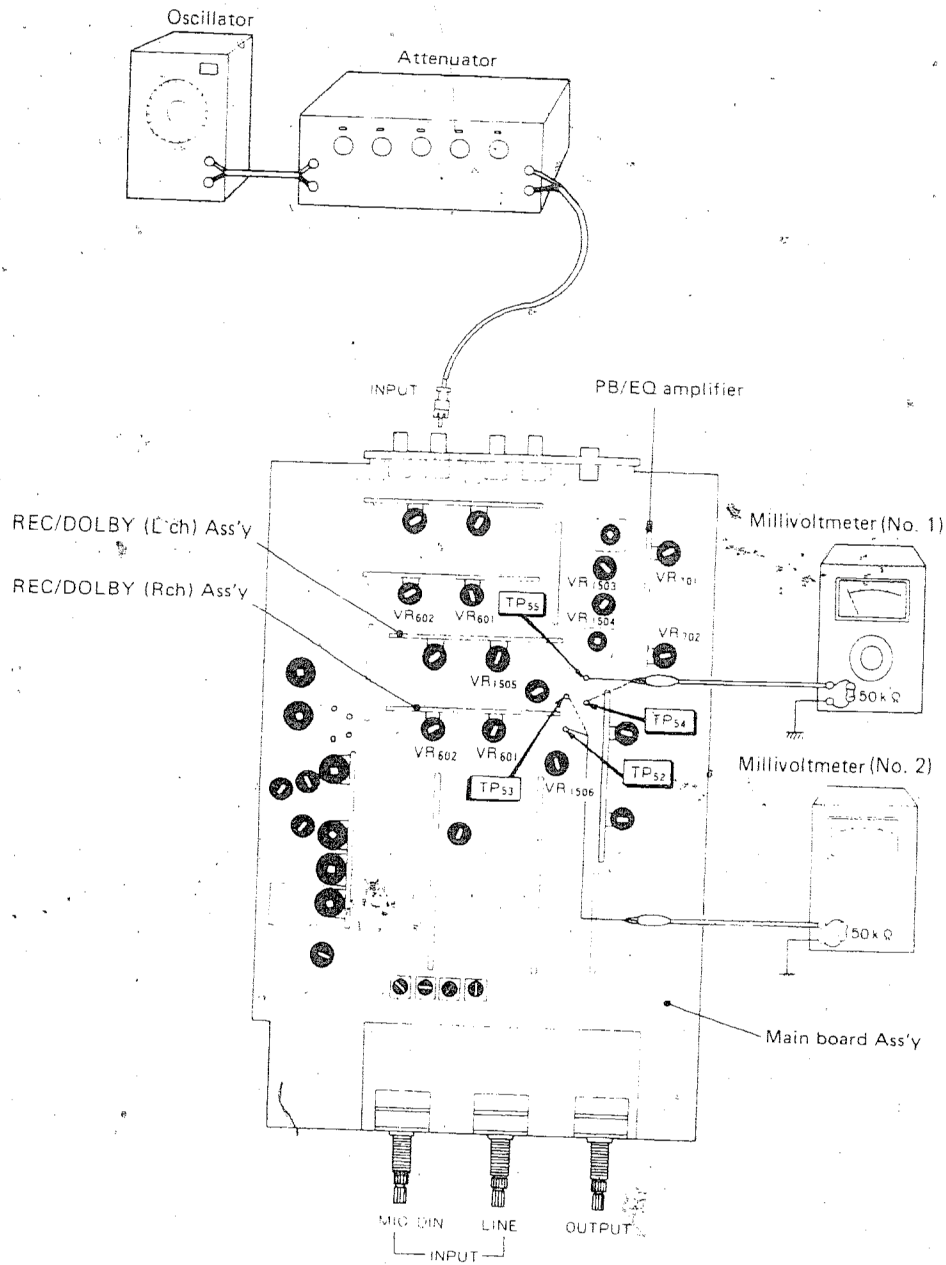

Fig. 26
1. Connect a millivoltmeter to T.P. terminal No.54 (L. ch) of the main board, and another millivoltmeter to T.P. No.55 (R. ch). Also connect both millivoltmeters to ground, as shown in Fig. 26.
1. Leave the millivoltmeter connected to the same T.P. terminals and ground as for the head azimuth adjustment above (and as shown in Fig. 26).
1. Leave the meters connected to the same T.P. terminals and ground as for the head azimuth adjustments above (and as shown in Fig. 26).
2. Next connect a pair of meters to T.P. terminals No.53 (L. ch) and No.52 (R. ch) on the main board, and another pair of meters to the T.P. terminals No.54 (L. ch) and No.55 (R. ch), connecting all the meters to ground. (see Fig. 26).
1. Connect meters to T P terminals No.52 (R. ch) and No.53 (L. ch) on the main board (Fig. 26).